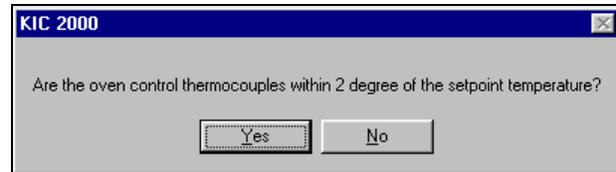

Figure 54
- After you select on the *Profile Start* button the software will ask if all the oven control thermocouples are within 2 degrees of the set point value. See Figure 54.